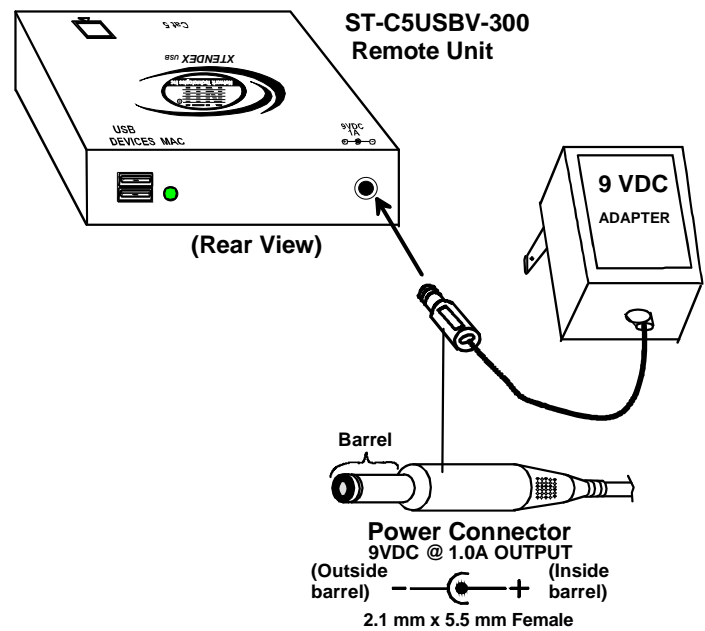

Figure 9- Connect AC adapters
2. Connect the AC adapter power connectors to the 9VDC ports on the Remote and Local Units. (AC adapter shown in Fig. 9)